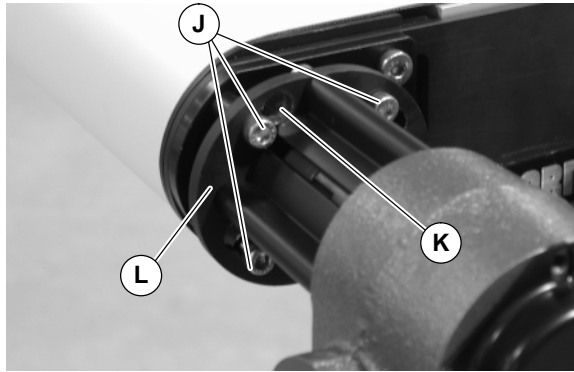

Figure 6
4. Slide mounting screws (J of Figure 6) through slots (K) in gearmotor bracket (L). Rotate gearmotor assembly into desired position.